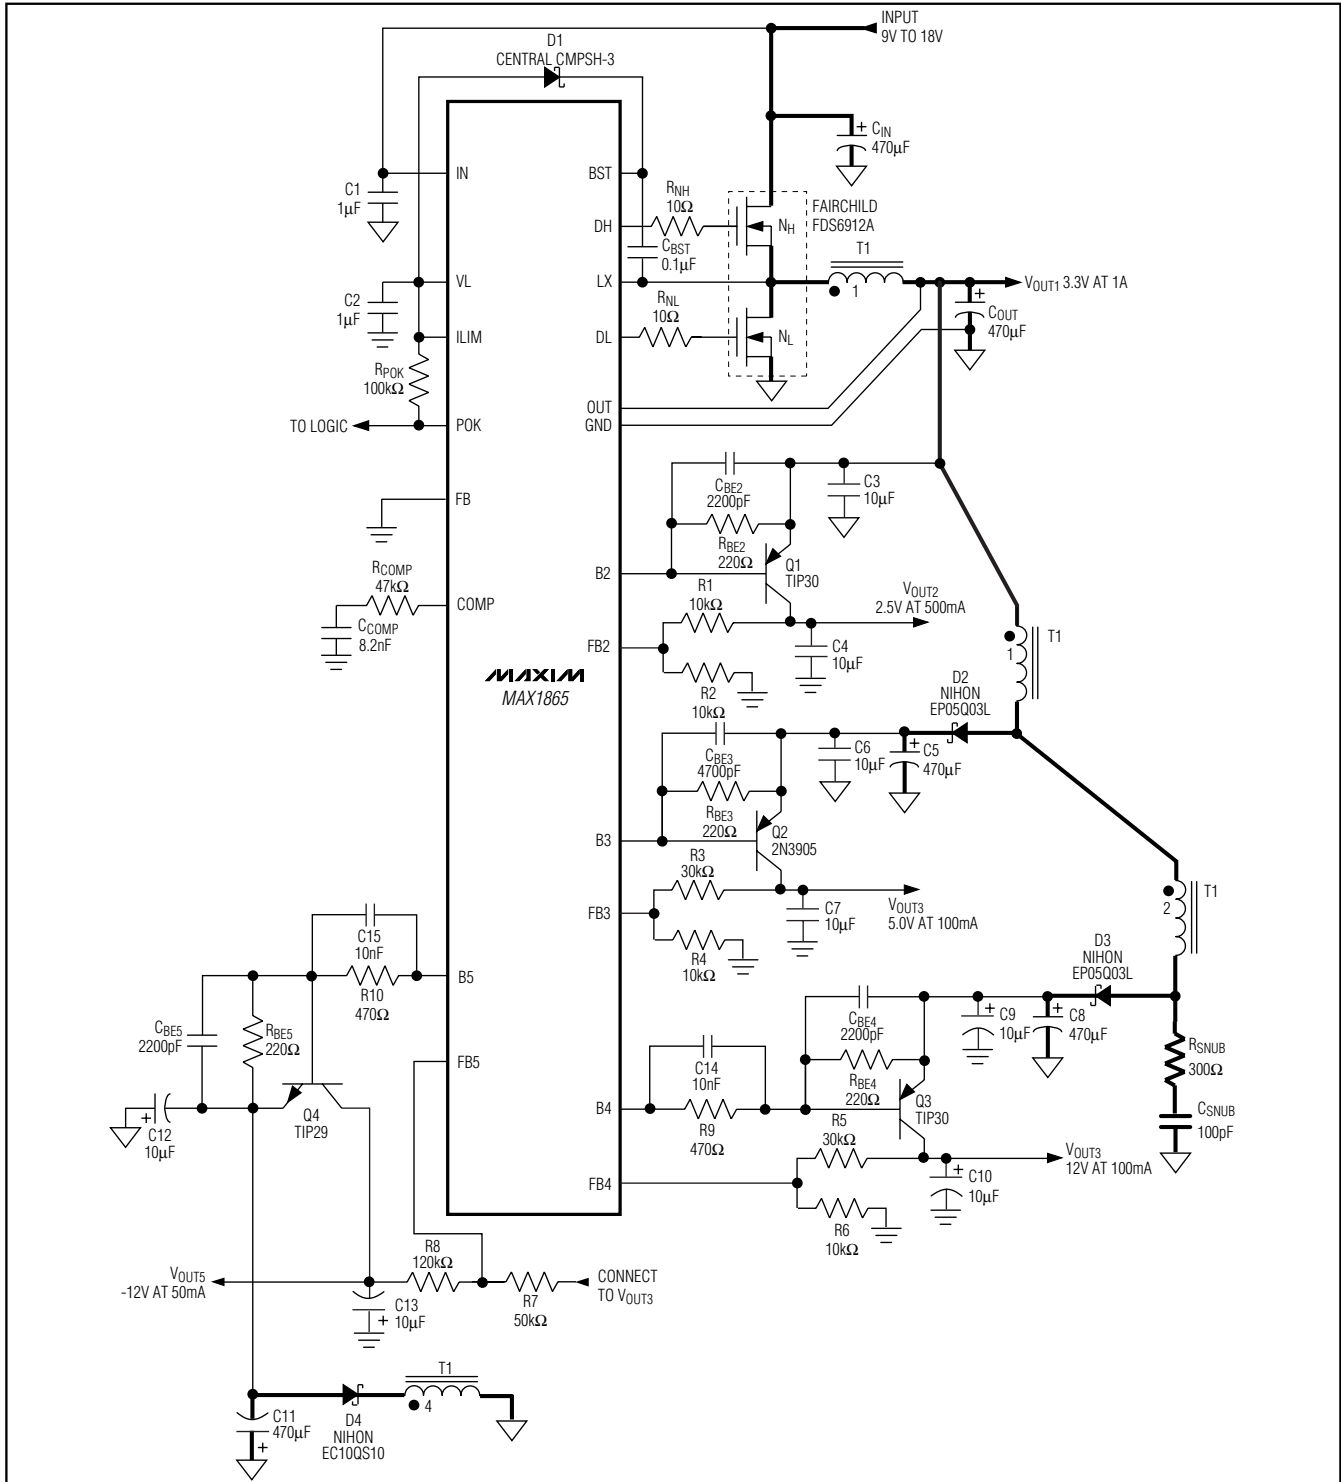

Figure 6. Standard MAX1865 Application Circuit
The MAX1864/MAX1865's positive linear regulator output voltages are set by connecting a voltage-divider from the output to FB_- to GND (Figure 6). Select R_4 in the $5k\Omega$ to $50k\Omega$ range. Calculate R_3 with the following equation:
The MAX1865's negative output voltage is set by connecting a voltage-divider from the output to FB_5 to a positive voltage reference (Figure 6). Select R_6 in the $5k\Omega$ to $50k\Omega$ range. Calculate R_5 with the following equation:
In systems where the step-down controller's output is not the highest voltage, a transformer may be used to provide additional postregulated, high-voltage outputs. The transformer generates unregulated, high-voltage supplies that power the positive and negative linear regulators. These unregulated supply voltages must be high enough to keep the pass transistors from saturating. For positive output voltages, connect the transformer as shown in figure 6 where the minimum turns ratio (N) is determined by:
only), connect the transformer as shown in Figure 6, where the minimum turns ratio is determined by:
The MAX1864/MAX1865 use a current-mode control scheme that senses the current across the high-side MOSFET (NH). Immediately after the high-side MOSFET has turned on, the MAX1864/MAX1865 use a 60ns current-sense blanking period to minimize noise sensitivity. When the MOSFET turns on, however, the transformer's secondary inductance and the diode's parasitic capacitance form a resonant circuit that causes ringing. Reflected back through the transformer to the primary side, these oscillations across the high-side MOSFET may last longer than the blanking period. A series RC snubber circuit at the diode (Figure 6) increases the damping factor, allowing the ringing to settle quickly. Applications with multiple transformer windings require only one snubber circuit on the highest output voltage. Applications with low turn ratios (1:1), such as the MAX1864 typical application circuit (Figure 1), may not require a snubber circuit.
For the EC10QS10 Nihon diode used in figure 6, the capacitance is roughly 15pF. The output snubber must only dampen the ringing, so the initial turn-on spike that occurs during the blanking period remains preset. A 100pF capacitor works well in most applications; larger capacitance values require more charge, thereby increasing the power dissipation.
The snubber's time constant (t_{SNUB}) must be smaller than the 100ns blanking time. A typical RC time constant of approximately 30ns was chosen for Figure 6: